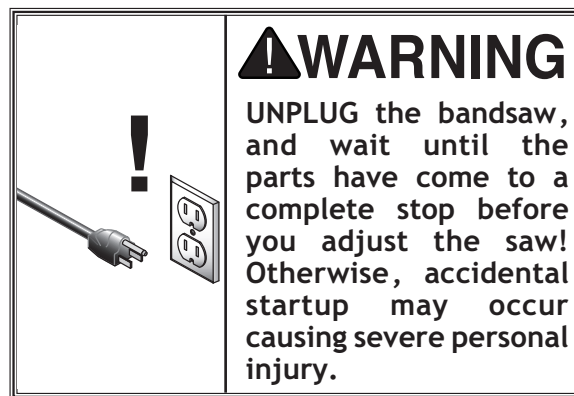

Figure 36. Aligning fence with ruler.
1. Using a high-quality ruler, as shown in **Figure 36**, measure the distance at both ends of the fence to the edge of the miter slot. The distance should be the same at both the front and the back of the table.